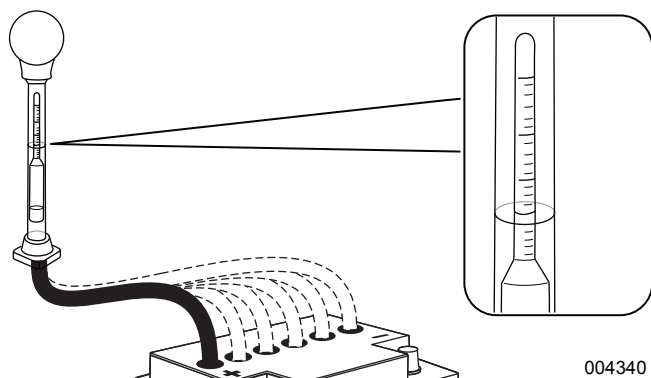

Figure 8-6. Check 12 V Battery Cells
- See Figure 8-6. With battery fully charged, check specific gravity readings of each cell with a battery hydrometer. Record readings. All readings should be above 1.250 (compensating for temperature). If specific gravity readings vary by more than 0.50, or if all cells read less than 1.225, replace battery.